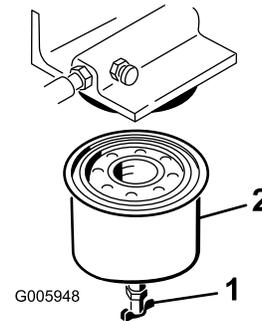

Figure 31
4. Open the drain valve (Figure 31) and drain the fuel from the fuel filter into a suitable container and dispose of it properly.
5. Remove the fuel filter with a filter wrench (Figure 31).